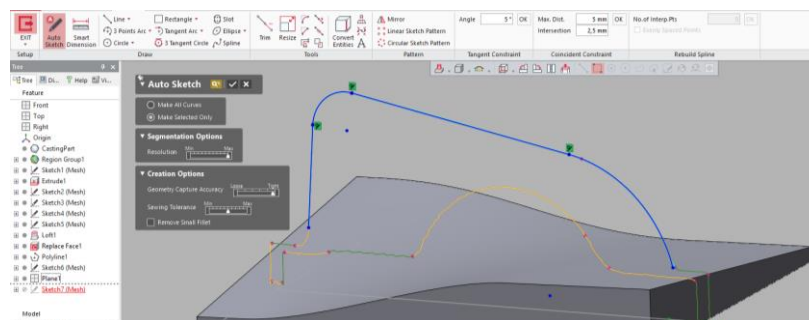

Figure 466
5. Sketch the profile of the rib as shown in **Figure 466**.